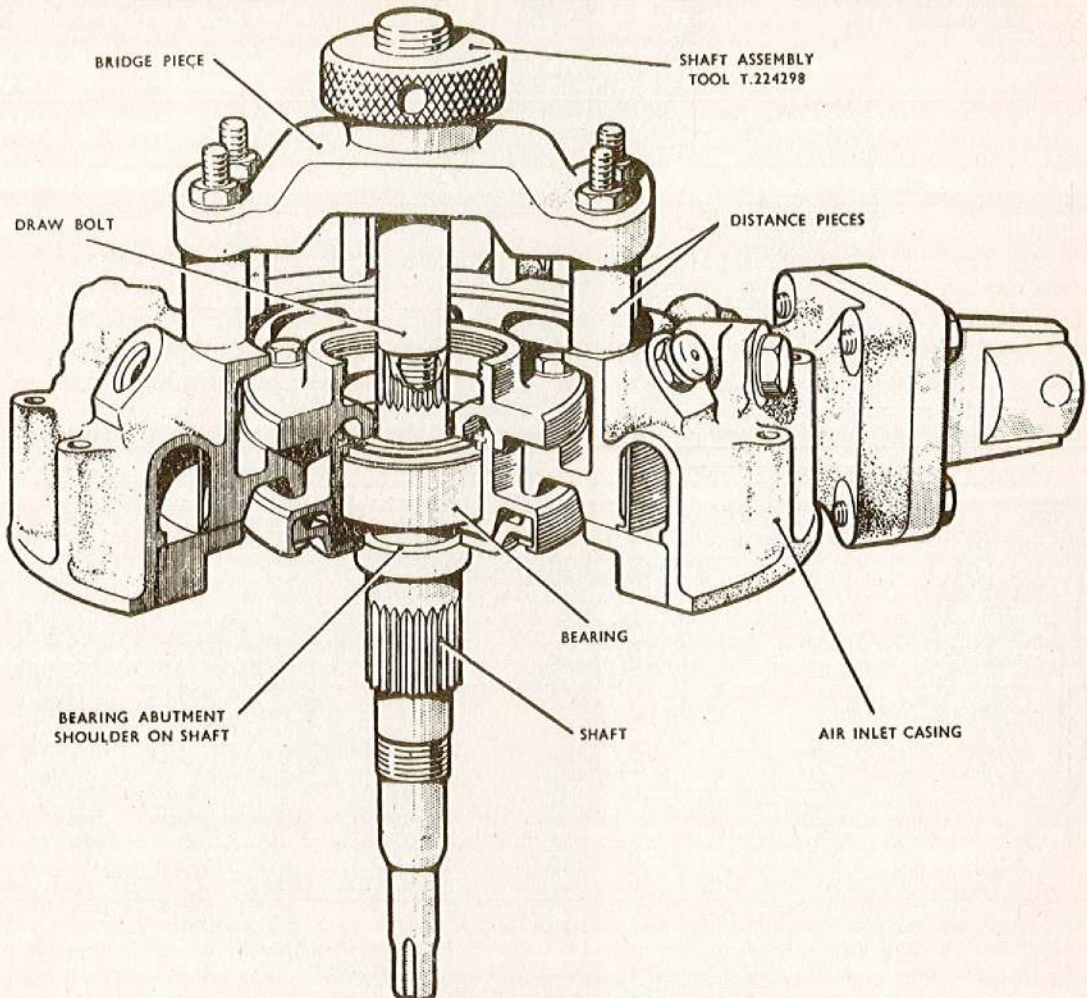

Fig. 12. Removing the shaft from the air inlet casing
59. Remove the assembly from the locking sleeve and mount it on the dismantling fixture. Use the ejector T.224297 to remove the shaft from the air inlet casing as shown in fig. 12. Fit the distance pieces followed by the bridge piece over the pump casing studs and secure them with washers and nuts. Screw the ejector shaft down and press out the rotor shaft from the casing, taking care to avoid allowing the shaft to fall out and suffer damage.